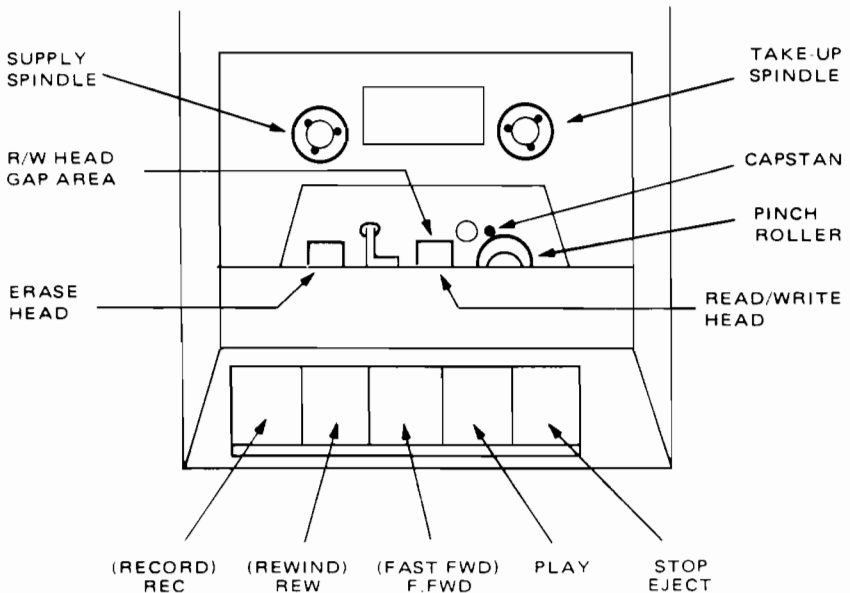

Figure 3. MECHANICAL COMPONENTS LOCATION
- STEP 2. Press "*PLAY*" and check the movement of the tape heads toward the spindles and the engaging of the capstan by the pinch roller (see Figure 3). The take-up spindle should be moving smoothly in a counterclockwise direction.